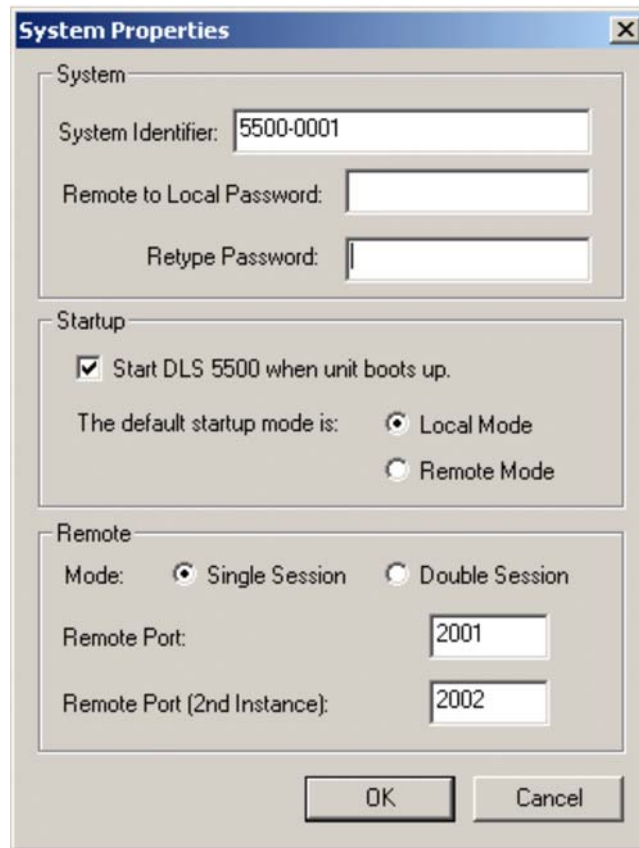

Figure 3-27. System Properties Dialog Box
- 1 Select **System > Properties** from the Control Application menu bar. The *System Properties* dialog box opens (Figure 3-27 on page 51).